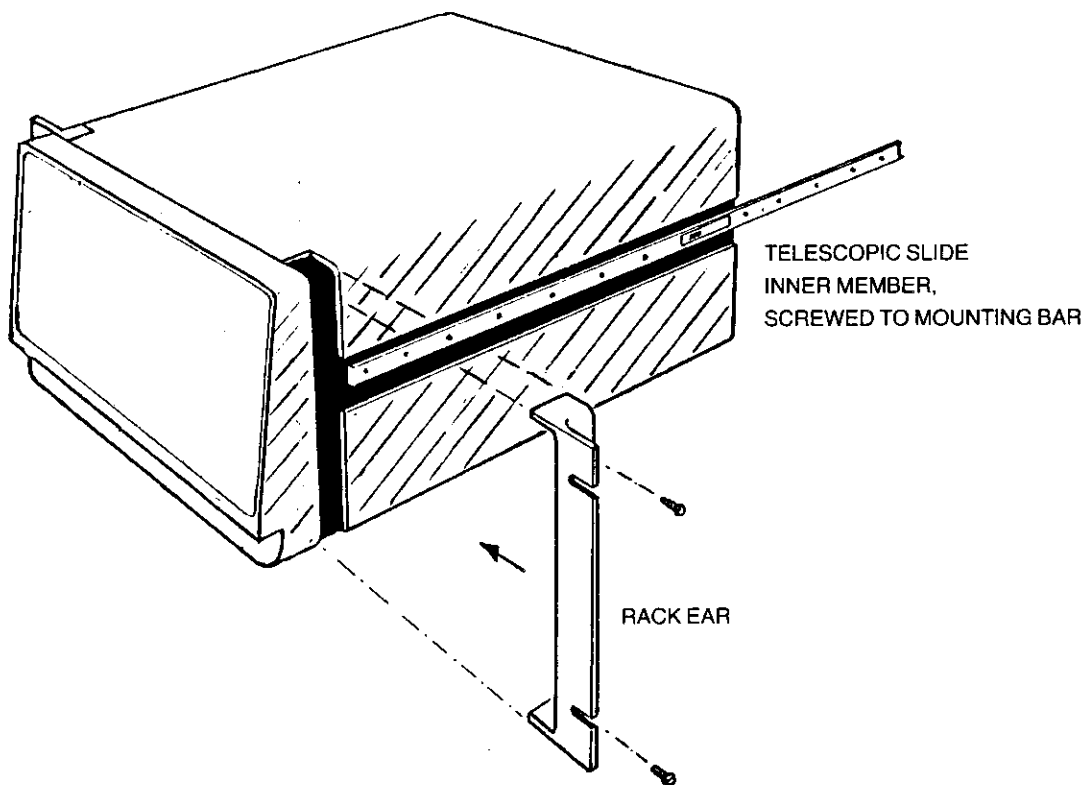

Fig. 2.3 Fitting rack ears and telescopic slide inner members
2. Fit the following items to the unit, as shown in Fig. 2.3: